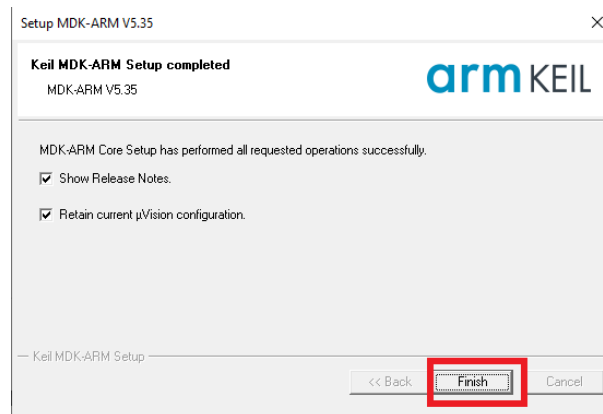

Figure 5
- After successful installation, a window shown in Figure 5 pops up. Just click on Finish button.